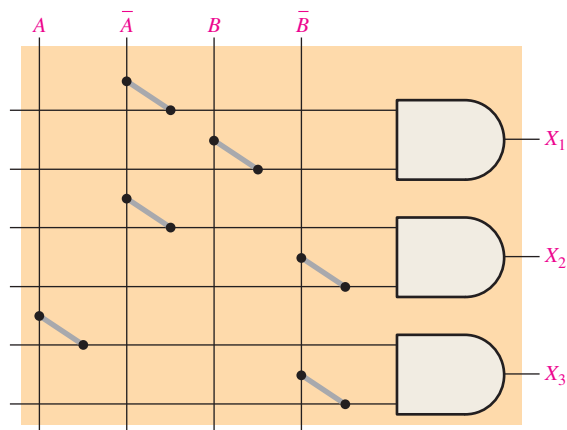

FIGURE 3-89
29. In the simple programmed AND array with programmable links in Figure 3-89, determine the Boolean output expressions.